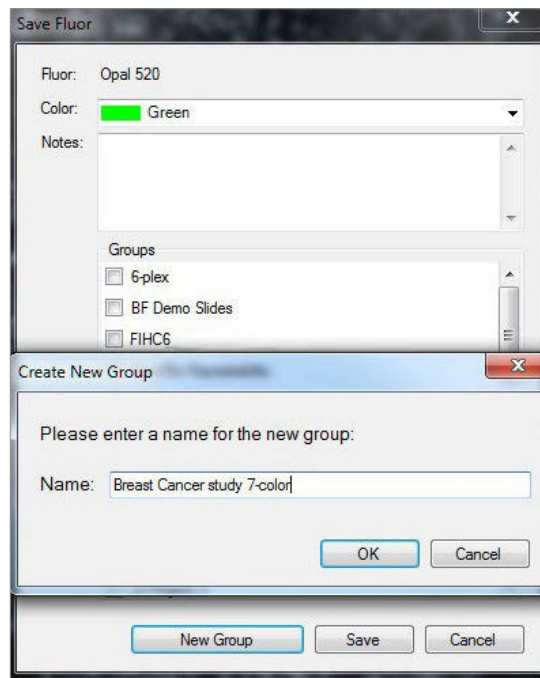

Figure 10. Saving Opal fluorophore spectrum to the library, with a meaningful group tag.
3. Save to 'Store' each fluorophore spectrum, preferably with a color that will make it easier to discern in composite view and with a meaningful group tag (Figure 10).